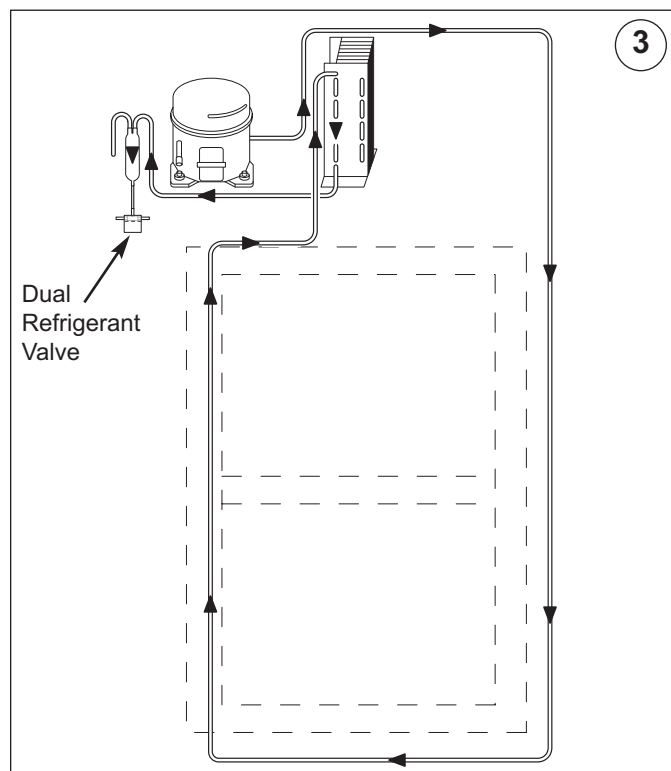

Figure 4-9. Dual Refrigerant Valve
(3) - Dual Refrigerant Valve (Figure 4-9)